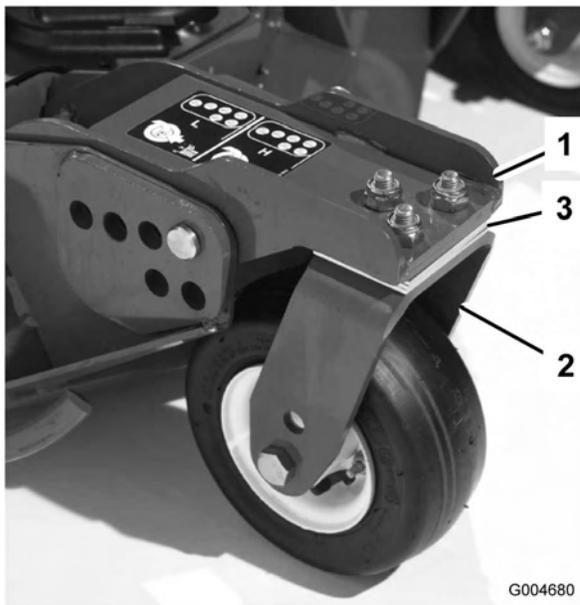

Figure 27
Rotate blade of each spindle until the ends face forward and backward. Measure from the floor to the front tip of the cutting edge. Adjust 1/8 inch shims on front castor arm(s) to match height of cut to decal (Figure 27). For the outside blade spindle only, refer to Adjusting the Cutting Unit Pitch procedure in Mower Maintenance, page 51.
3. If the inside edge of the side cutting unit is too high relative to the outside edge of the front cutting unit, remove one 1/8 inch shim from the bottom of the front inside castor arm on the side cutting unit (Figure 27). Recheck measurement between outside edges of both side cutting units and inside edge of side cutting unit to outside edge of front cutting unit.